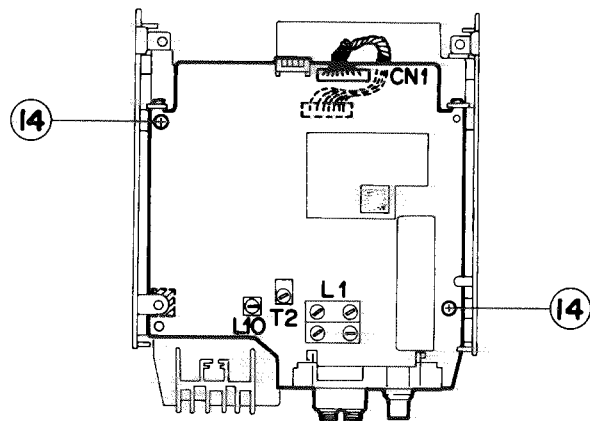

Fig. 7 – 16
■ Function P.C. board (Fig. 7 – 17)